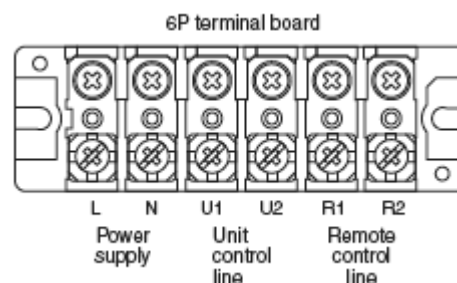

Fig.9-2
- (1) Refer to Section 9.2. "Recommended Wire Length and Wire Diameter for Power Supply System" for the explanation of "A", "B", "C", "D", "E" and "F" in the above diagram.
- (2) The basic connection diagram of the indoor unit shows the terminal boards, so the terminal boards in your equipment may differ from the diagram.(Fig.9-2)
- (3) Refrigerant Circuit (R.C.) address should be set before turning the power on.
- (4) Regarding R.C. address setting, refer to the installation instructions supplied with the remote controller unit(optional). Auto address setting can be executed by remote controller automatically. Refer to the installation instructions supplied with the remote controller unit(optional).